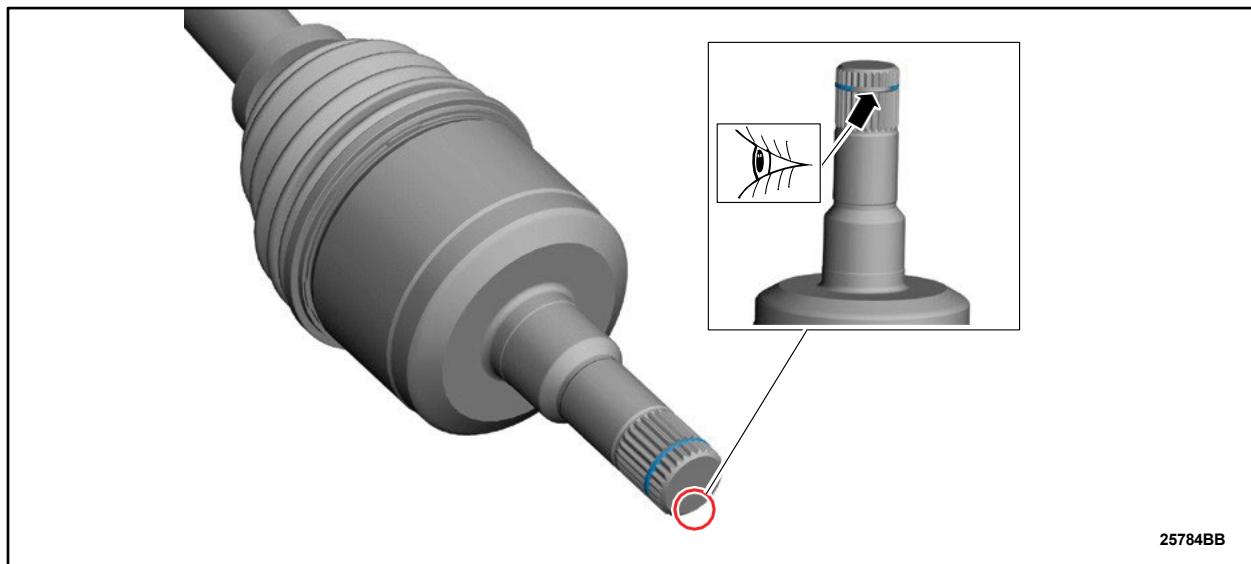

FIGURE 35
NOTE: Before reinstalling the halfshaft, make sure the *new* circlip has an opening that is aligned and oriented to 6 o'clock position. Refer to Figure 35.
38. If reinstalling a LH halfshaft after inspection PASS, remove and discard, then install a *new* halfshaft retaining circlip. See Figure 35.
39. Make sure that the circlip opening is aligned and oriented to 6 o'clock position on both the LH/RH halfshafts before installing. See Figure 35.